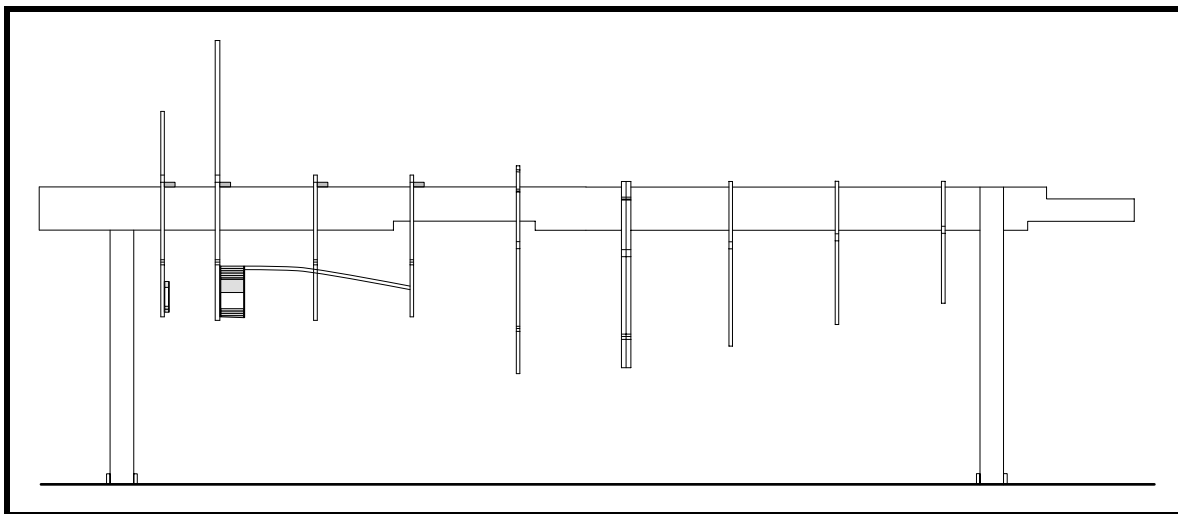

Figure 9
- ❑ Level the fuselage jig, align it with the wing and install the one-by-two's for fuselage frames No. 3, 4, 5 and 6. See Figure 9.